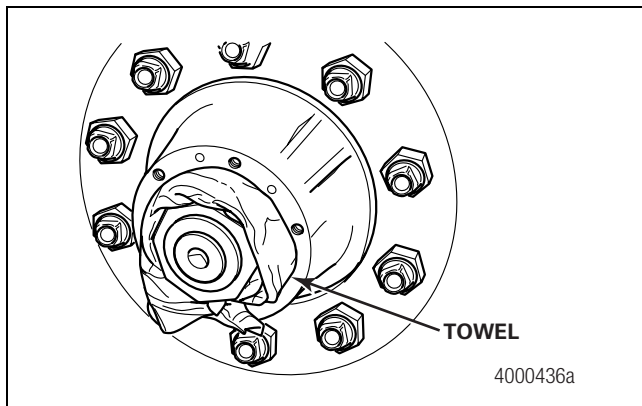

Figure 2.7
- Cover the wheel ends at both ends of the axle with a clean towel. Figure 2.7.